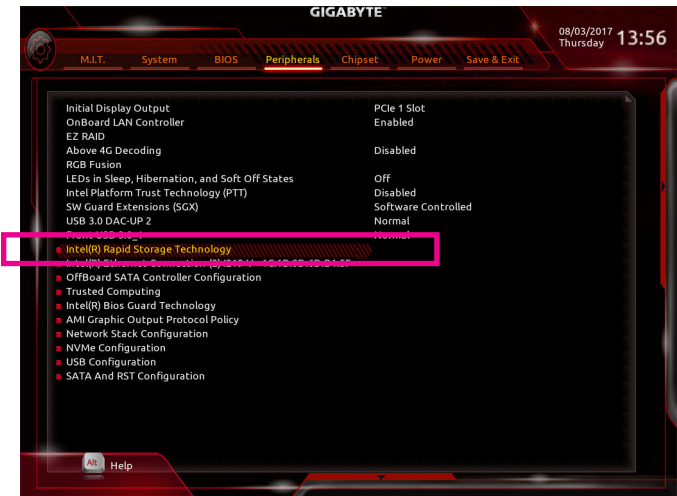

Figure 7
After the system reboot, enter BIOS Setup again. Then enter the **Peripherals\Intel(R) Rapid Storage Technology** sub-menu (Figure 7).